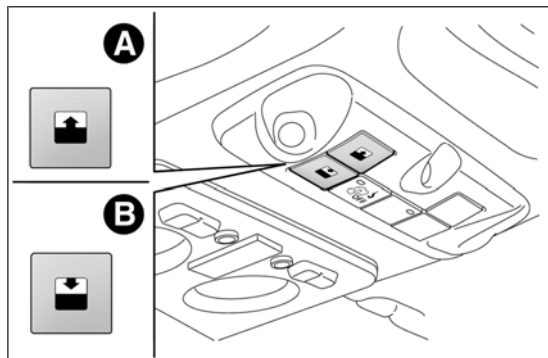

fig. 52
The sun roof can be operated only with the ignition key turned to MAR. The controls A and B fig. 52 on the trim next to the front courtesy light operate the sun roof opening/closing functions.
Pressing button A fig. 52 permits two opening modes for the front glass panel.
Pressing button B fig. 52 permits two closing modes for the front glass panel.
- ☐ press button B fig. 52 until the roof is completely closed. Release the button;